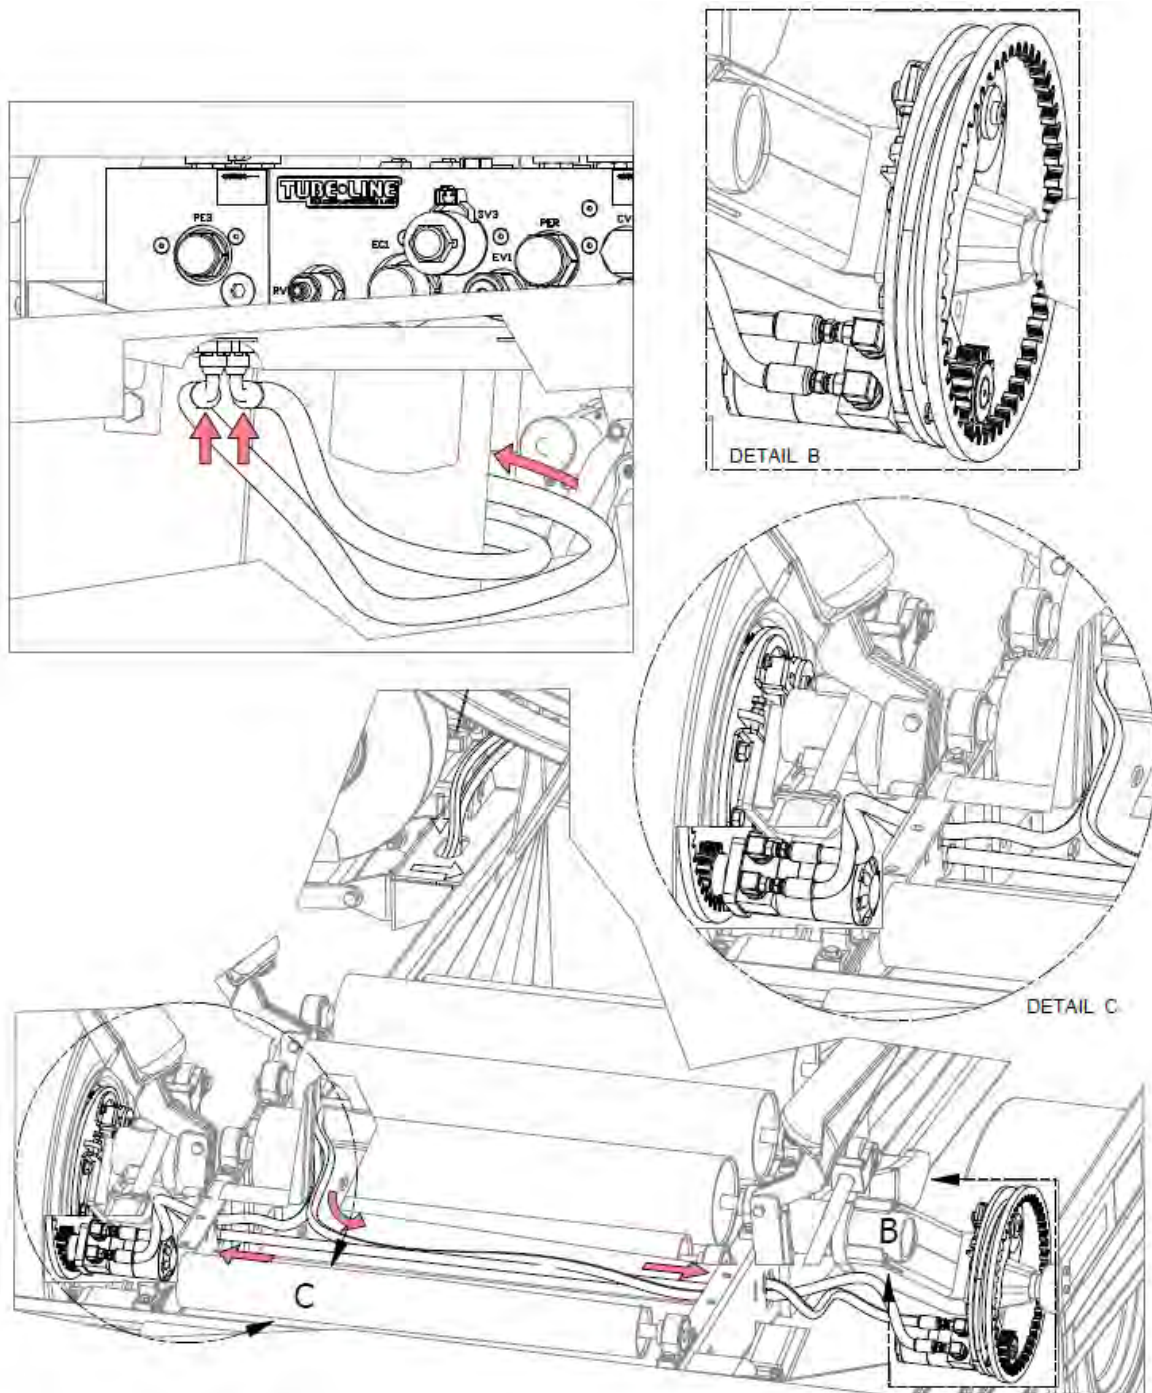

Fig.1
2. Loosen and remove the 3 bolts from the same side as Step 1 (fig.1 on next page).
2. Remove existing brake pad from parking brake bracket. Reuse bolts to fasten supplied hydraulic motor as shown in Fig.1.
5. Route hoses from main manifold valve ports **DR** and **DF** through hoop wheel mount and side frame tube to middle of roller bed, then through the left roller bed mount plate to the hydraulic motor. Make sure 90° hose ends are towards main manifold valve. See arrows in Fig.1.